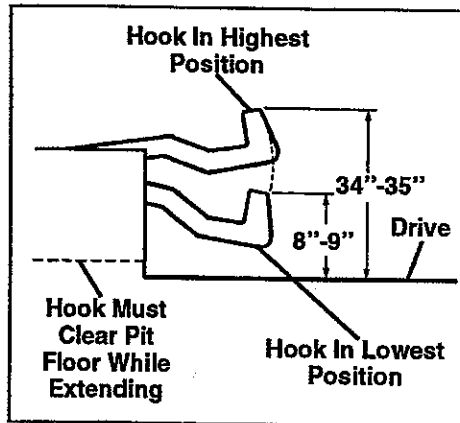

Fig. 24. Hook Vertical Operating Range
3. Measure upper and lower limits of operating range. The upper and lower limits of the vertical operating range should be 34"-35" and 8"-9" respectively. See Figure 24.